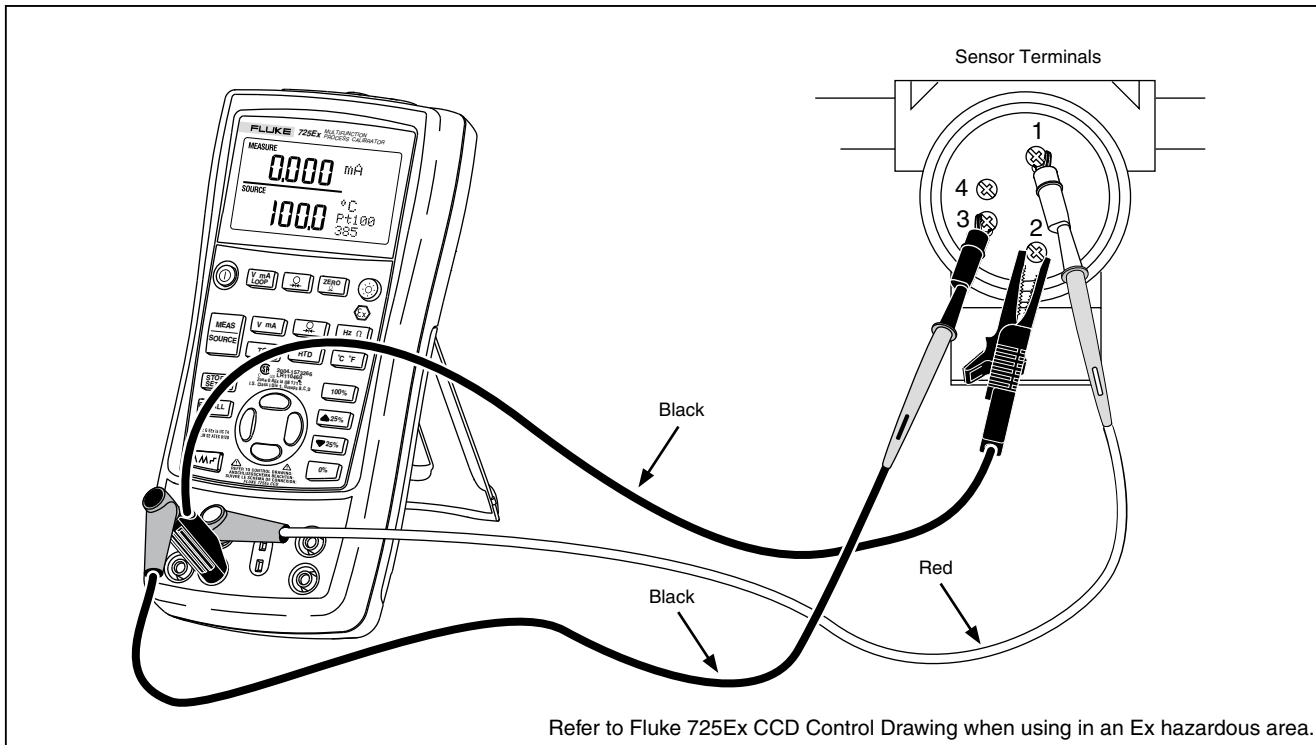

Figure 17. Connections for Simulating 3-Wire RTD
Connect the Calibrator to the instrument under test as shown in Figure 17. Proceed as follows to simulate an RTD:
*Use the 3W and 4W terminals for measurement only, not for simulation. The Calibrator simulates a 2-wire RTD at its front panel. To connect to a 3-wire or 4-wire transmitter, use the stacking cables to provide the extra wires. See Figure 17.*